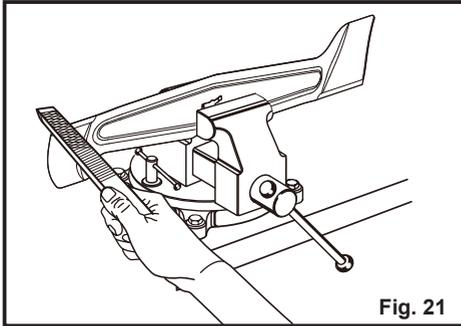

Fig. 21
- Using a fine-tooth file or sharpening stone, sharpen cutting edges on both ends of the blade, removing equal amounts of material from both ends (Fig. 21).